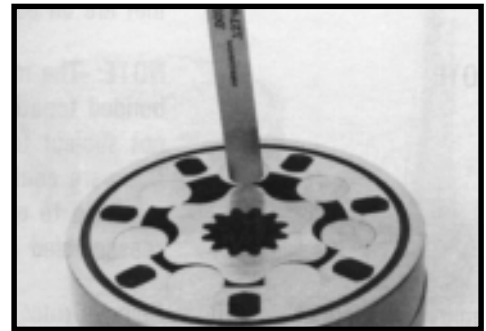

Figure 16
- Place rotor set (8) and wear plate (9) on a flat surface and center rotor (8A) in stator (8B) such that two rotor lobes (180 degrees apart) and a roller vane (8C) centerline are on the same stator centerline. Check the rotor lobe to roller vane clearance with a feeler gage at this common centerline. If there is more than .005 inches (0.13 mm) of clearance, replace rotor set. SEE FIGURE 16.